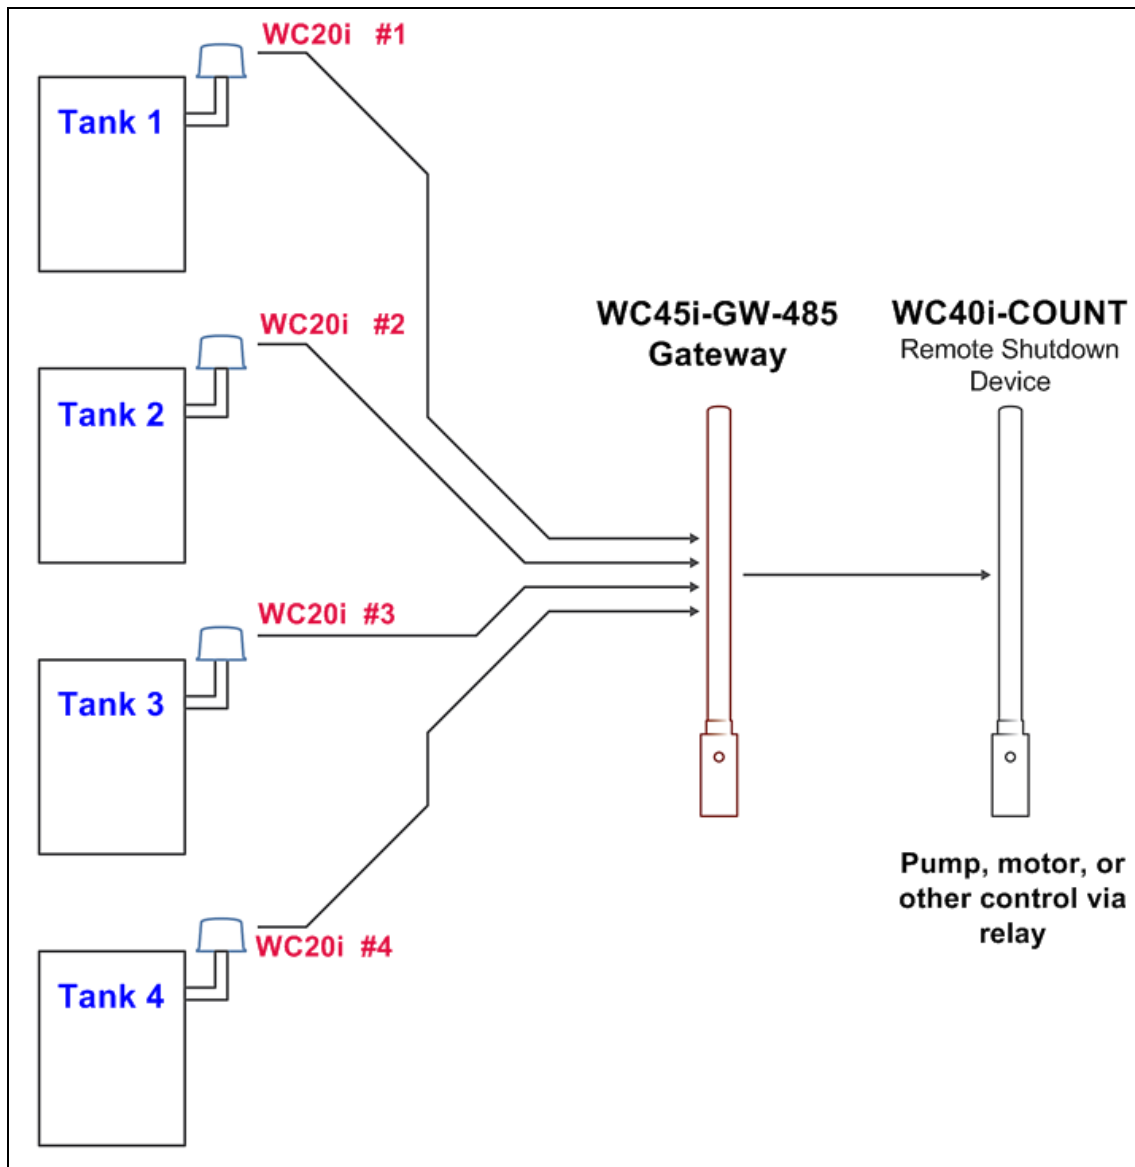

Figure 46: Example: WC45i-GW-485 Modbus Gateway Topology
- An example of the topology is shown in Figure 46.